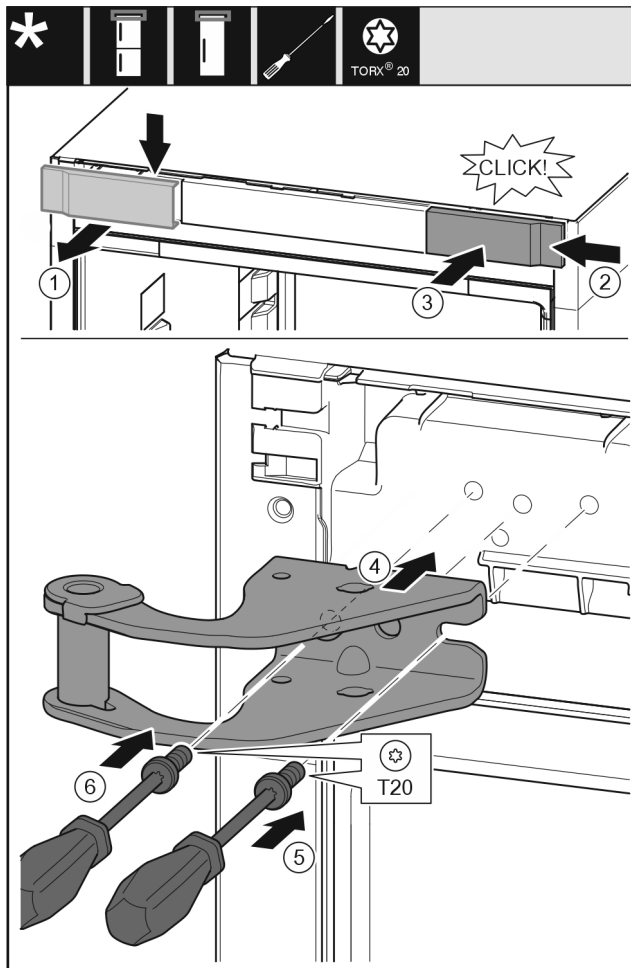

Fig. 13
- Take off the cover to the front from above. Fig. 13 (1)
- Rotate the cover 180° and clip onto the other side from the right. Fig. 13 (2)
- Latch the cover into place. Fig. 13 (3)
- Position the upper bearing bracket. Fig. 13 (4)
- Insert the screw with a T20 screwdriver and tighten it. Fig. 13 (5)
- Insert the screw with a T20 screwdriver and tighten it. Fig. 13 (6)